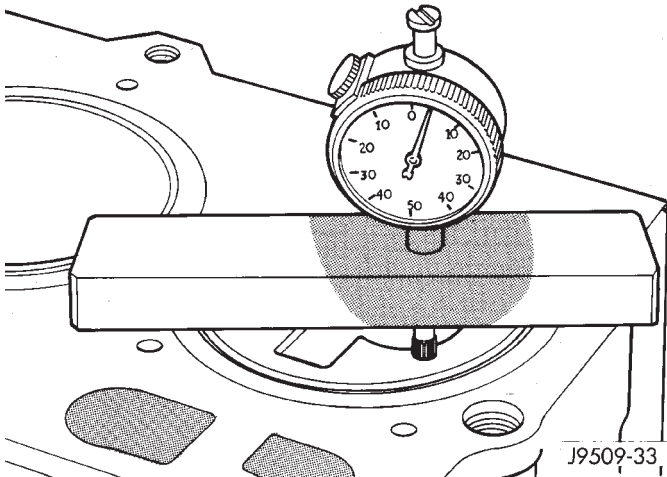

Fig. 36 Measuring Piston Protrusion
(1) Use special tool VM.1010 with dial indicator special tool VM.1013 (Fig. 36).